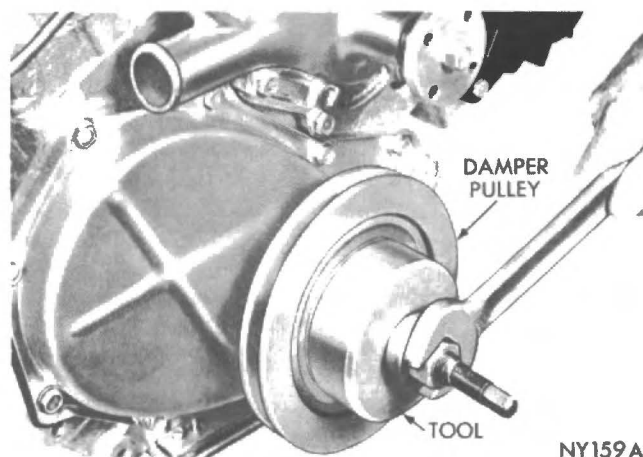

Fig. 26 - Installing damper pulley assembly (Tool CA-3732).
(1) Place the damper pulley assembly hub key in slot in crankshaft, and slide hub on crankshaft.
(2) Place the installing tool, part of puller set Tool CA-3732 in position and press the damper pulley assembly on the crankshaft (Fig. 26).